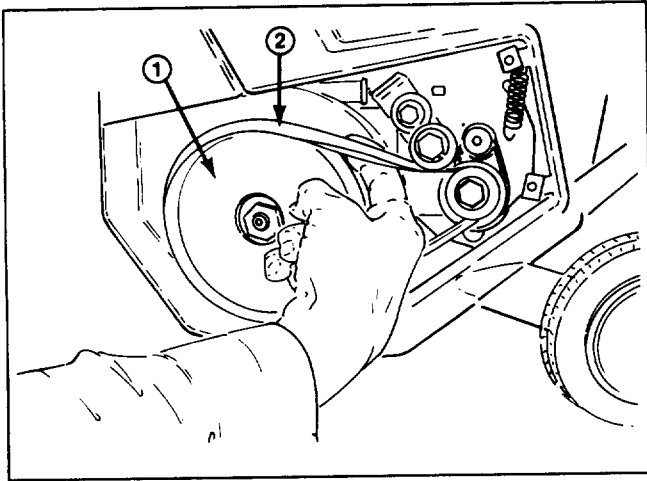

Figure 16
3. Rotate rotor with left hand while walking (sliding) belt off large pulley with right hand (Fig. 16).
2. Remove large belt by slowly walking (sliding) it off small pulley (Fig. 16). Refer to steps 2-3 in Large Belt Replacement section.